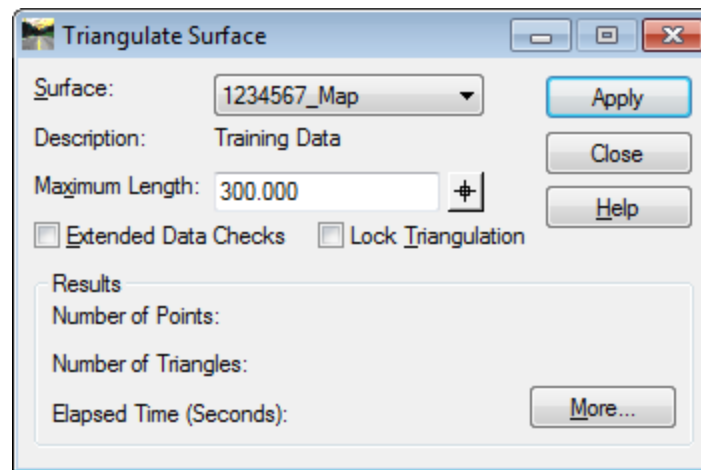

Figure L3-9 Triangulate Surface
24.	<p>Whenever the Resolve Crossing Segments command is used, the Features will need to be re-triangulated for the changes to be represented in the DTM. This should only be done after all of the Crossings have been resolved.</p> <p>Select Surface ► Triangulate Surface. The Triangulate Surface dialog box will open.</p> <ul style="list-style-type: none"> In the Surface: Pulldown – select 1234567_Map In the Maximum Length: field enter – 300.000 <p>Leave all other entries as default.</p> <p>The inputs should now correspond to the screen capture depicted in Figure L3-9 (as shown below).</p>